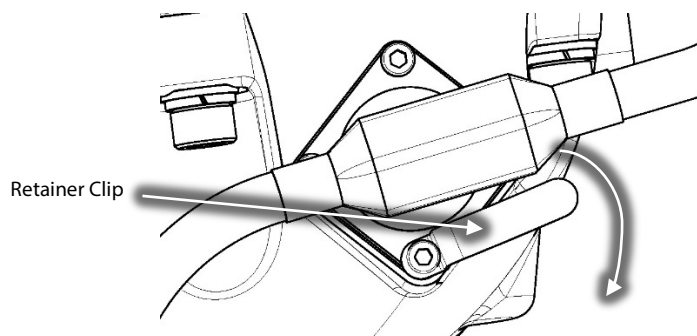

Figure 12 – Retainer Clip Rotation
20. Loosen the screw containing the Retainer Clip and rotate the clip to allow for the connector to be removed. Refer to Figure 12 (Retainer Clip Rotation).